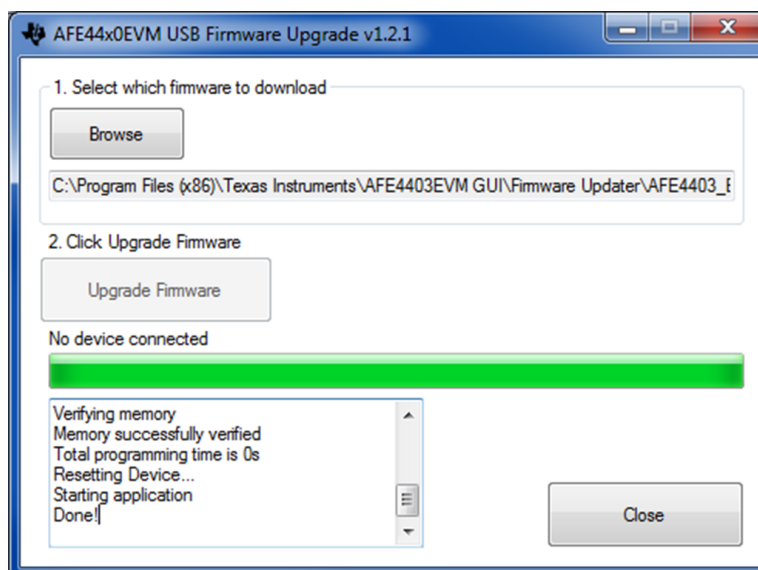

Figure 38. Firmware Loader Application: Programming Status
5. The text box will display the status of the firmware programming. If programming is successful, *Done!* message is displayed in the text box. Figure 38 shows the status of the successful programming.